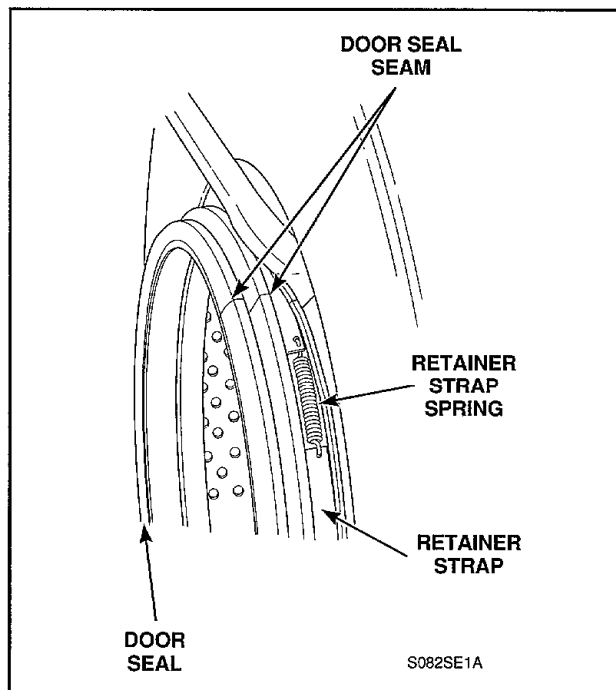

Figure 24
- q. Carefully unhook retainer strap spring from retainer strap, *Figure 24*.
IMPORTANT: Reinstall door seal with seam at top, *Figure 24*.